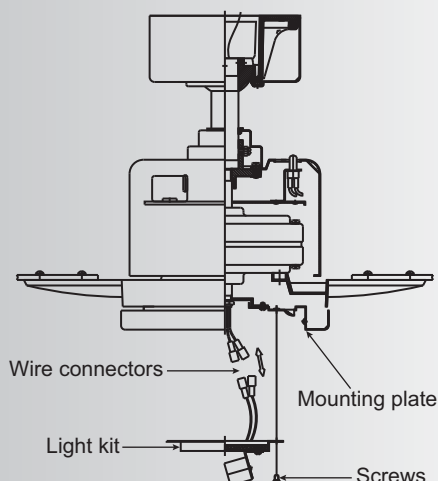

Fig. 18
Hold the light kit close to the mounting plate and connect the white wires from the light kit and the fan. Follow the same procedure with the black wire connectors. (Fig. 18)
Step 2. Tuck the connections neatly into the mounting plate. Place the key holes on the light kit over the 2 screws previously loosened from the mounting plate, turn the light kit until it locks in place at the narrow section of the key holes. Secure by tightening all three screws. (Fig.18)